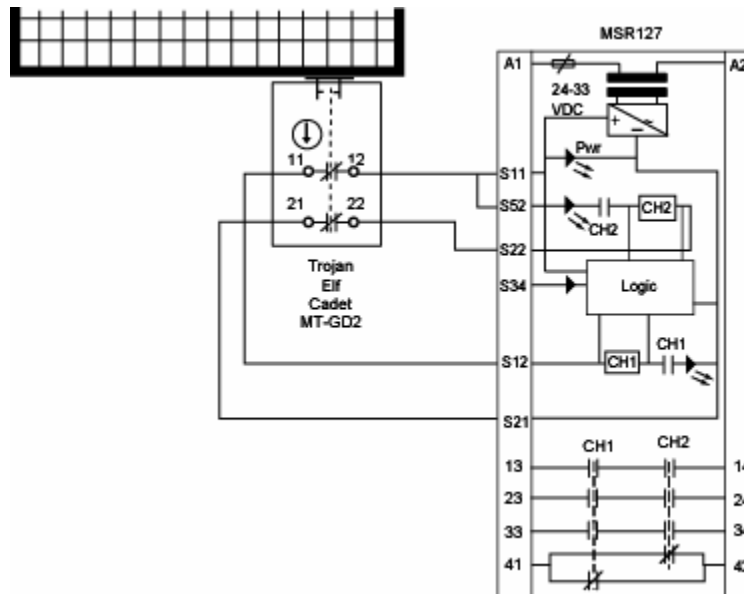

Figure 6. Dual Channel with One Tongue Interlock
- The input circuit arrangement shown in Figures 6 meets the requirements of EN954-1 Category 4.